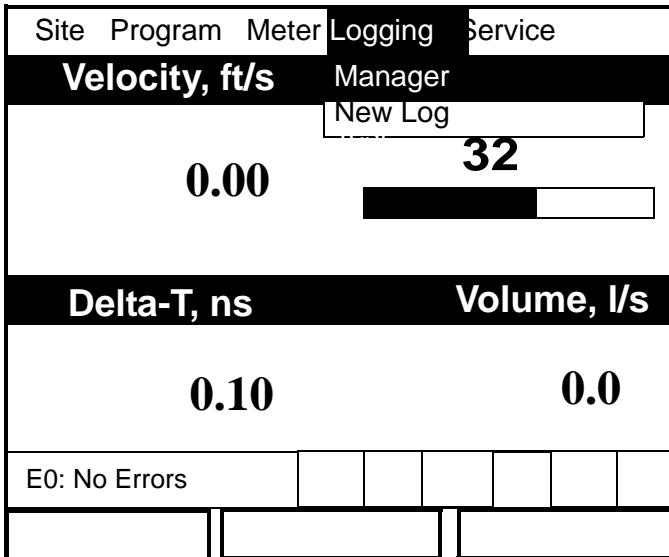

Figure 88: Logging Menu
To enter the Logging Menu, press the [MENU] key at the lower right of the PT878 keypad. The Main Menu replaces the Status Bar at the top of the screen. Press the [▶] arrow key three times to scroll from the Site Menu to the Logging Menu. At the Logging Menu, press [ENTER]. The screen appears similar to Figure 88 below. Refer to Figure 141 on page 224 of Appendix A, *Menu Maps*.
- by scrolling to the New Log option in the Logging Menu (as shown in Figure 88 on page 132) and pressing [ENTER], or